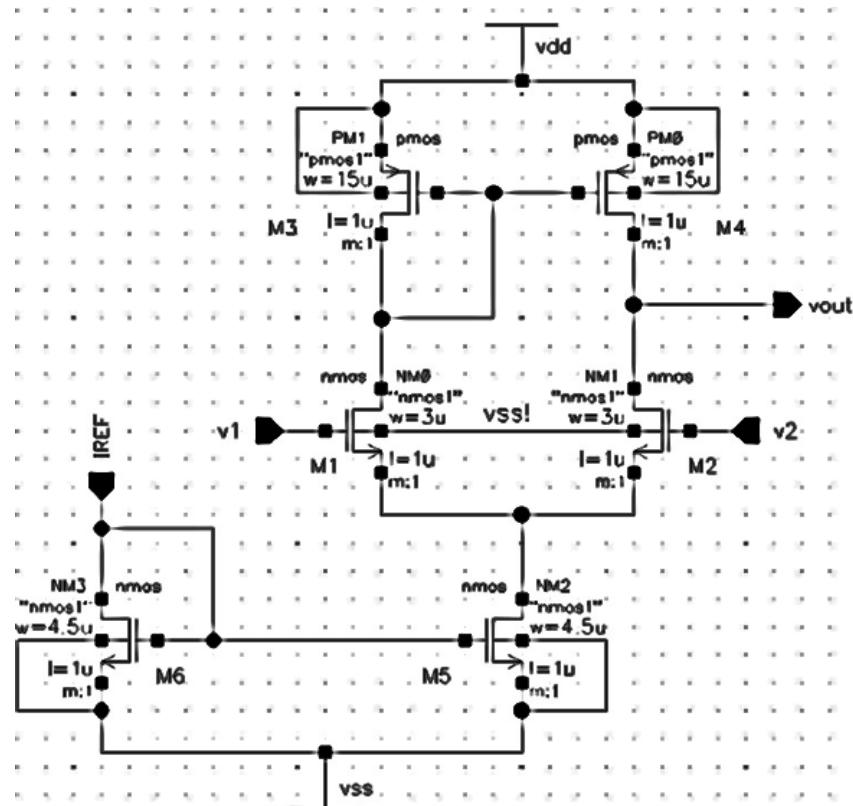

Figure 8.9: Differential Amplifier
- Built the design schematic based on Fig.8.9 and Table.8.3.